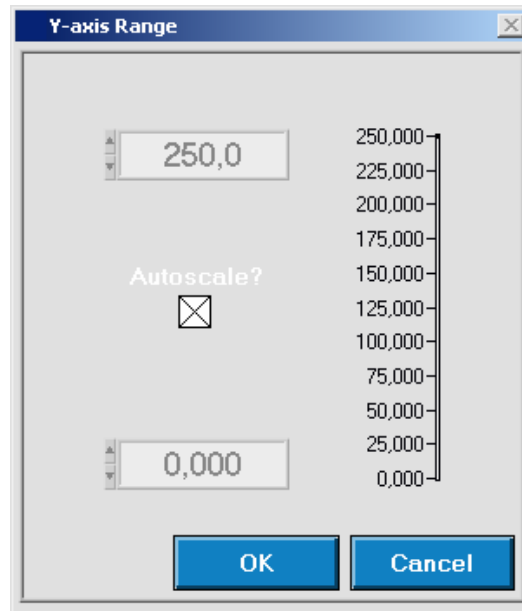

Figure 4-22. Y-Axis Range
1. The range or mapping of Y-axis can be changed for each graph in Y-axis Range dialog box. Click on Y-axis in graph to display this dialog box, as shown in Figure 4-22.